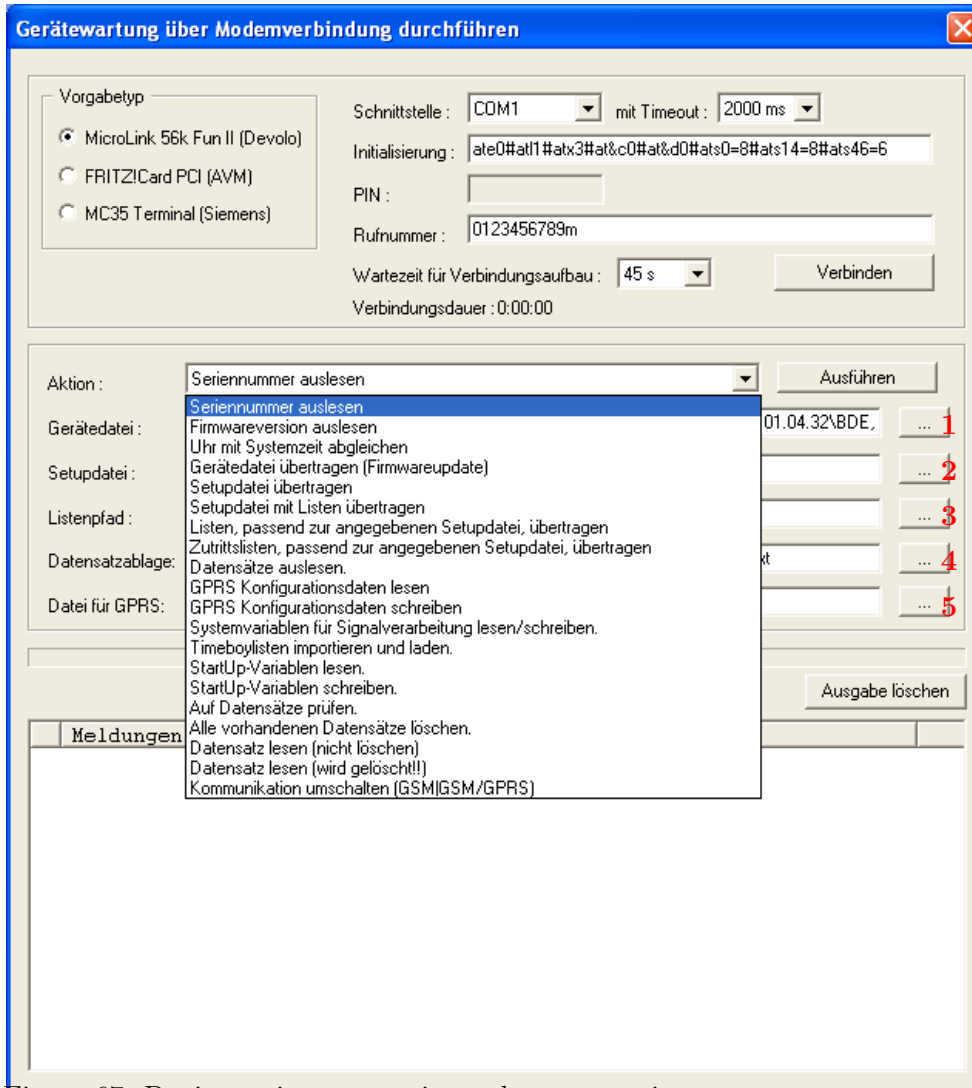

Figure 67: Device maintenance via modem connection
- ▶ Transmit device file (firmware update) - Via the button **1** in figure 67 a dialogue opens where you can select the device file with the extension ".hex". When you have marked the file, you can take it over via the button "Open".
- ▶ Transmit setup file - Via the button **2** in figure 67 a dialogue opens where you can select the setup file with the extension ".aes". When you have marked the file, you can take it over via the button "Open".
- ▶ Transmit setup file with lists - Via the button **3** in figure 67 a dialogue opens where you can define the folder (path) that contains the list files.